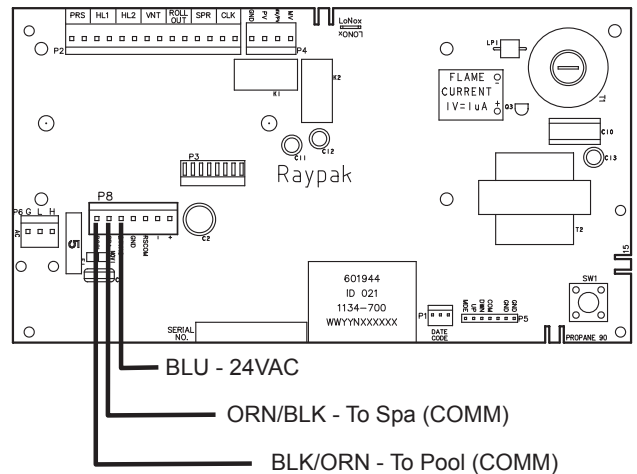

Figure 57. 3-Wire Remote Harness Installation on the P8 Connector of the Board
- Install the “Remote Interface Harness” to the P8 connector and turn power ON to the heater. See **Figure 57**.